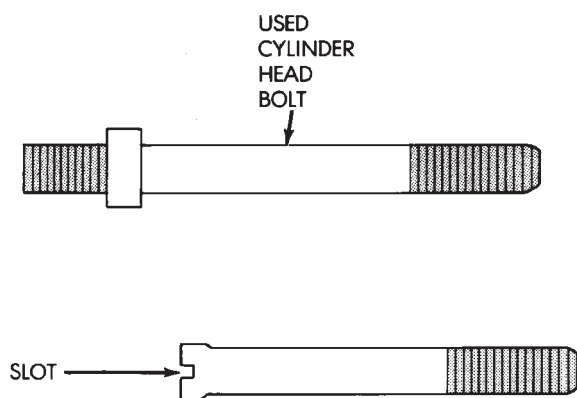

Fig. 35 Fabricate Alignment Dowels
(1) Fabricate two engine cylinder head alignment dowels from used head bolts (Fig. 35). Use the longest head bolt. Cut the head of the bolt off below the hex head. Then cut a slot in the top of the dowel to allow easier removal with a screwdriver.